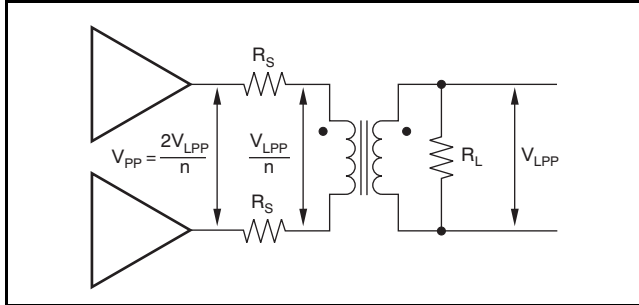
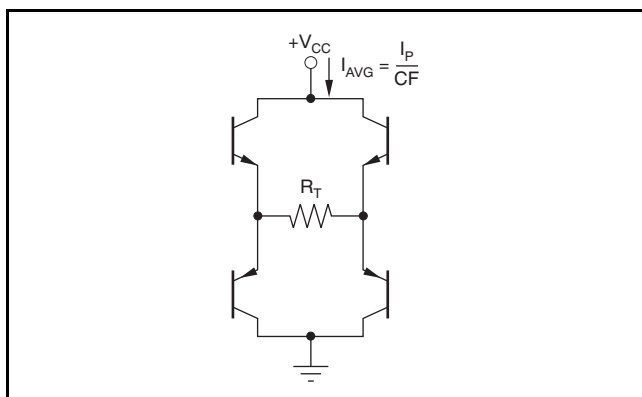

Figure 40. Driver Peak Output Voltage
Figure 43. Output Stage Power Model
with V_{PP} as defined in Equation 8, and R_M as defined in Equation 3 and shown in Figure 40.
The total internal power dissipation for the OPA2670 in an xDSL line driver application is the sum of the quiescent power and the output stage power. The OPA2670 holds a relatively constant quiescent current versus supply voltage—giving a power contribution that is simply the quiescent current times the supply voltage used. The total output stage power can be computed with reference to Figure 43.
The two output stages used to drive the load of Figure 40 can be seen as an H-Bridge in Figure 43. The average current drawn from the supply into this H-Bridge and load is the peak current in the load divided by the crest factor (CF) for the xDSL modulation. This total power from the supply is then reduced by the power in R_T , leaving the power dissipated internal to the drivers in the four output stage transistors. That power is simply the target line power used in Equation 4 plus the power lost in the matching elements (R_S). In the following examples, a perfect match is targeted giving the same power in the matching elements as in the load.